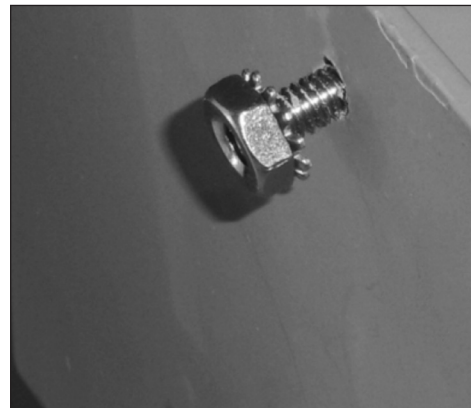

Figure 7.24 - 1/2 screw inserted into top hole of mounting plate
5. Source locally one (1) #8-32 X1/2" screw, two (2) each #8-32X3/4" screws and three (3) #8-32 Kep® nuts (or equivalent) for this step. Insert 1/2" screw into top hole in mounting plate and thread one of the nuts loosely on the end as shown in Figure 7.24.